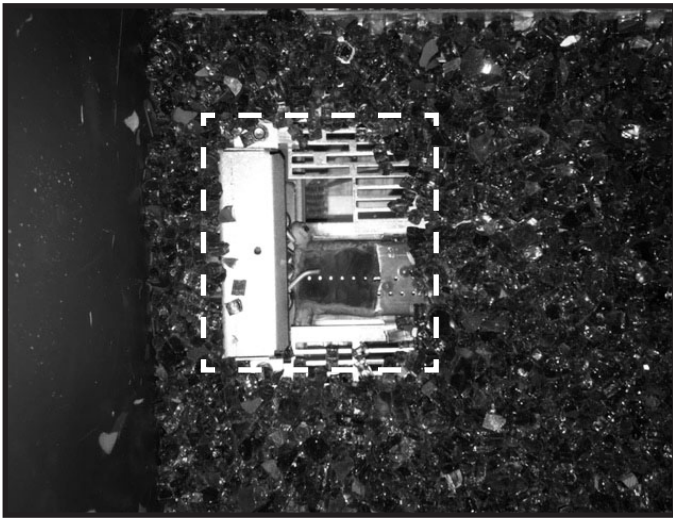
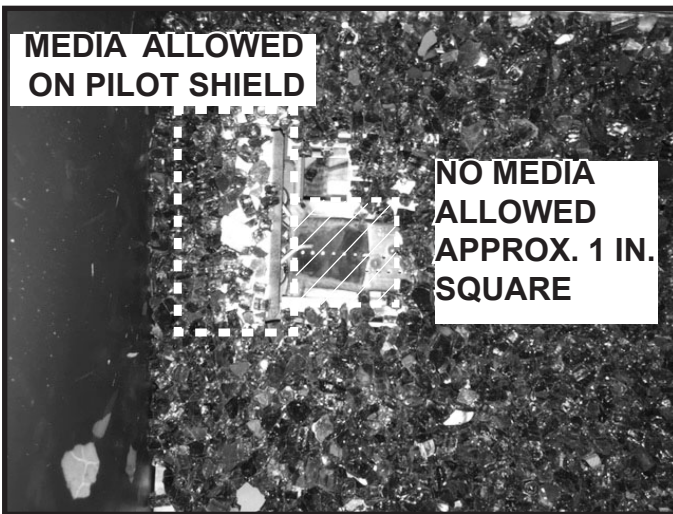

Figure 4. Media Installed with Media Placement Jig Removed
Figure 5. Pilot Shield Media installation.
- Place the media set aside in Step 1 over the pilot shield and areas shown in Figure 4 uncovered by removing the media placement jig. See Figure 4. **DO NOT allow any media in the 1 inch area shown in Figure 5.**